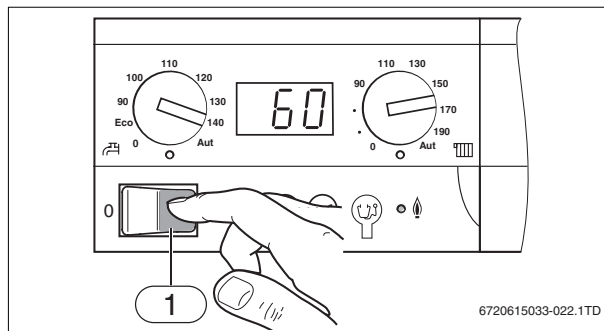

Fig. 18
- ▶ Wait five (5) minutes to clear out any gas. Then smell for gas, including near the floor. If you smell gas, STOP! Follow "B" in the safety information on page 10. If you do not smell gas, go to the next step.
- ▶ Switch on the heating system using the main switch (→ fig. 18).